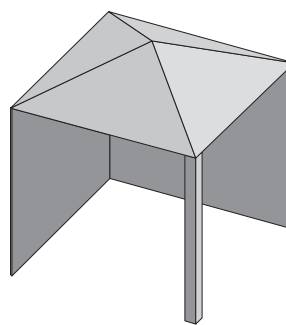
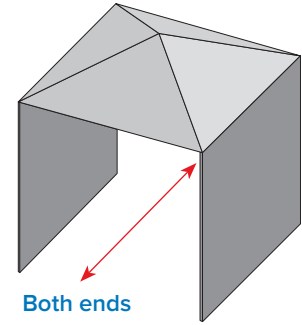

Fig. 2
Fig. 3
- » The sidewalls may be parallel, as in a breezeway, or at right angles to each other. **(Fig 2 & Fig 3).**